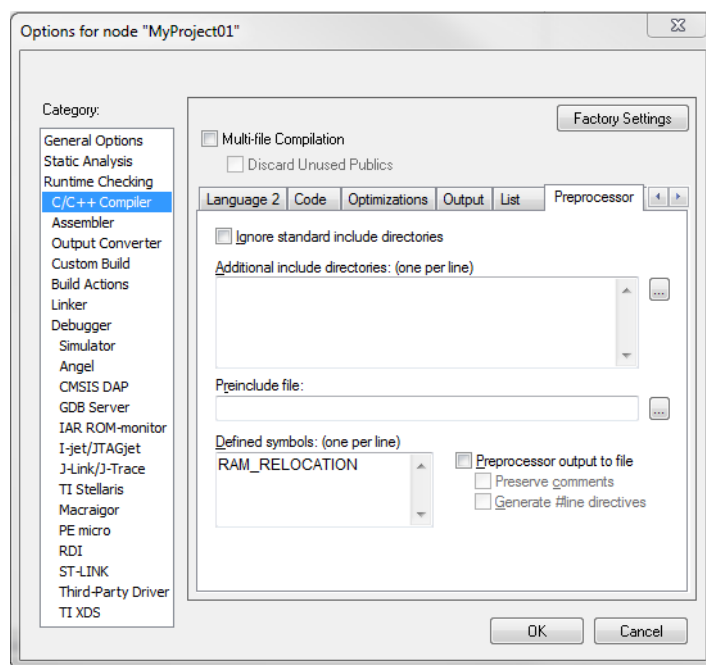

Figure 1-29. Defined symbols
4. In the text box (in Defined symbols: (one per line)), type the following (See Figure 1-29):